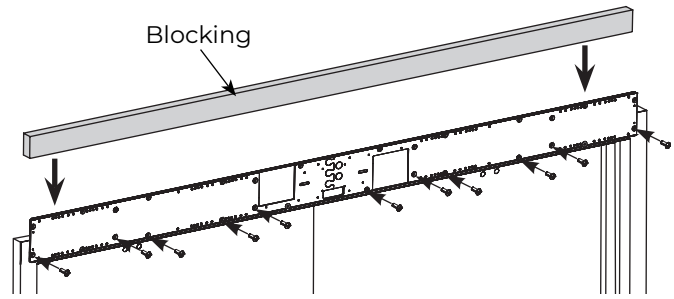

Figure 7
- Secure backplates to frame using eleven (11): 1/4-20 x 5/8" machine screws or 1/4 x 1-1/2" self-drilling screws from screw packs in Boxes 1 and 2. (Figure 7)
**NOTE:** It is important to properly secure top edge of backplate. Use of blocking (supplied by others) or shims (provided) to fill gap between backplate and wall above header is HIGHLY recommended. Material must comply with local codes. Failure to properly secure top of backplate could result in operator being allowed to 'rock' during operation. This could result in damage to operator and diminish operator function. (Figure 7)